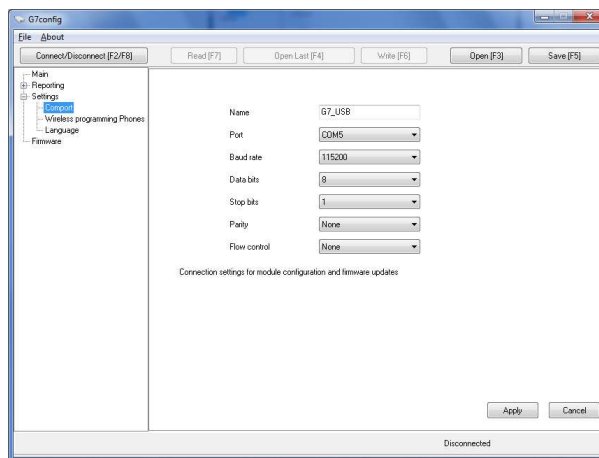

Figure6 View of window Comport
- 7.1.4 The window **Main/Settings/Comport** (see *Figure 6*) is intended for setting parameters of comport.